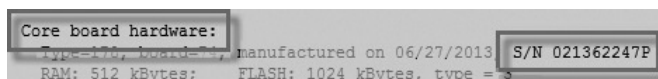

Fig. 55 — Example TV-RTU Serial Number
- A Module Status report (Modstat) under Core (or Main) board hardware (see Fig. 55 for an example).